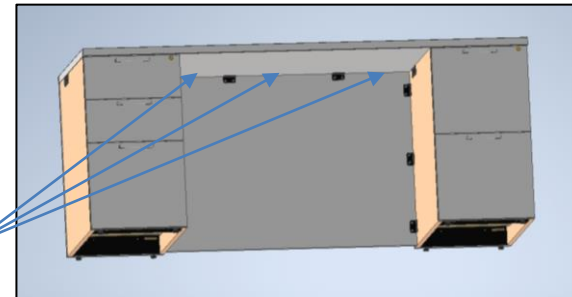

Figure 4
3. Position and secure the L-brackets (QTY VARIES) from your end panels or pedestals so that they are evenly spaced from each end of the back panel using #8 X 5/8" screws (Figure 4)